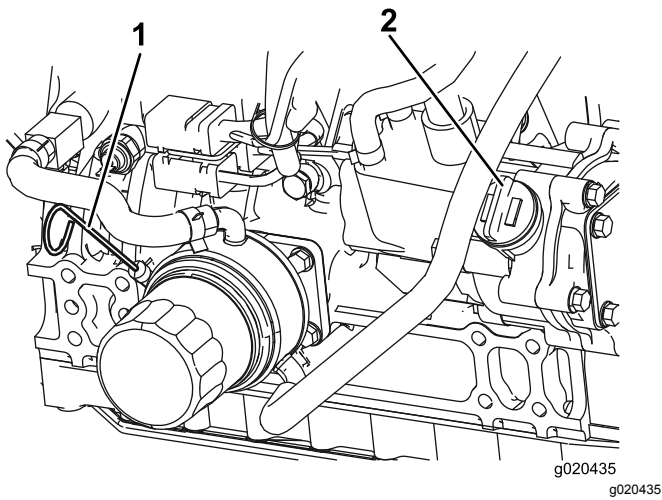

Figure 55
The oil level should be in the safe range (Figure 55).
4. If the oil is below the safe range, remove the fill cap (Figure 55) and add oil until the level reaches the Full mark.